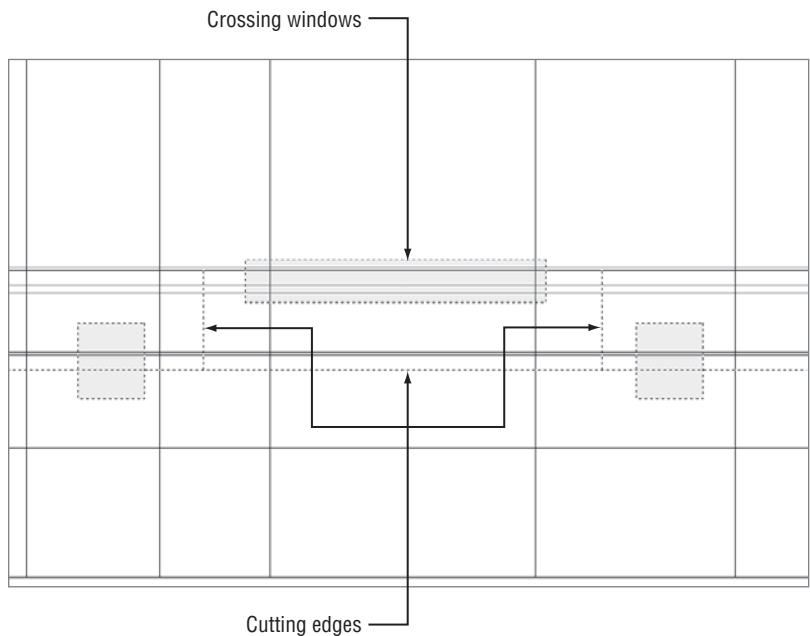

FIGURE 10.13 Defining the cutting edges and crossing windows to trim the roof extension
6. Start the TRIM command again, selecting the two roof extension lines you just created along with the bottom roof line as cutting edges (see Figure 10.13).
Use a total of three crossing windows to complete the TRIM command, as shown in Figure 10.13.